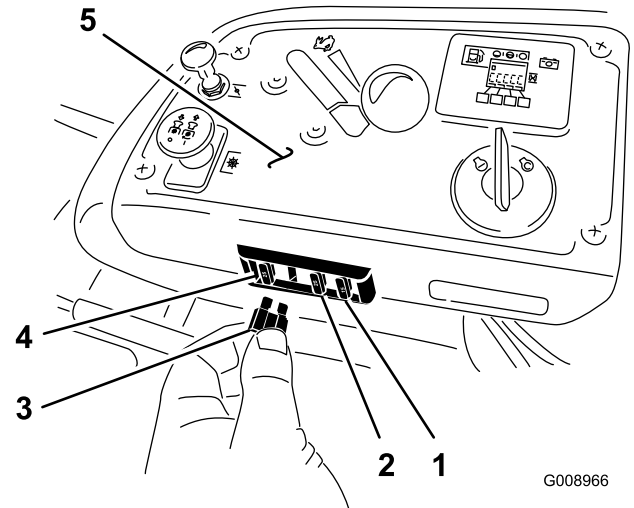

Figure 57
The fuses are located on the console to the right of the seat (Figure 57).
2. Install a new fuse (Figure 57).